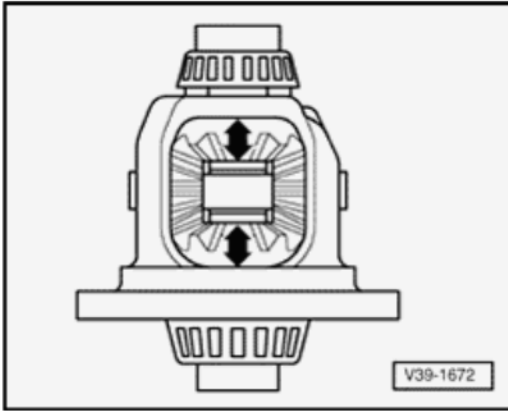

Fig. 87: Differential Planetary Gears, Adjusting
- Adjusting. See Fig. 87
- Redefine thickness. See Fig. 87
- If large bevel gears have been replaced, measure and select new shims. See **Fig. 87**.